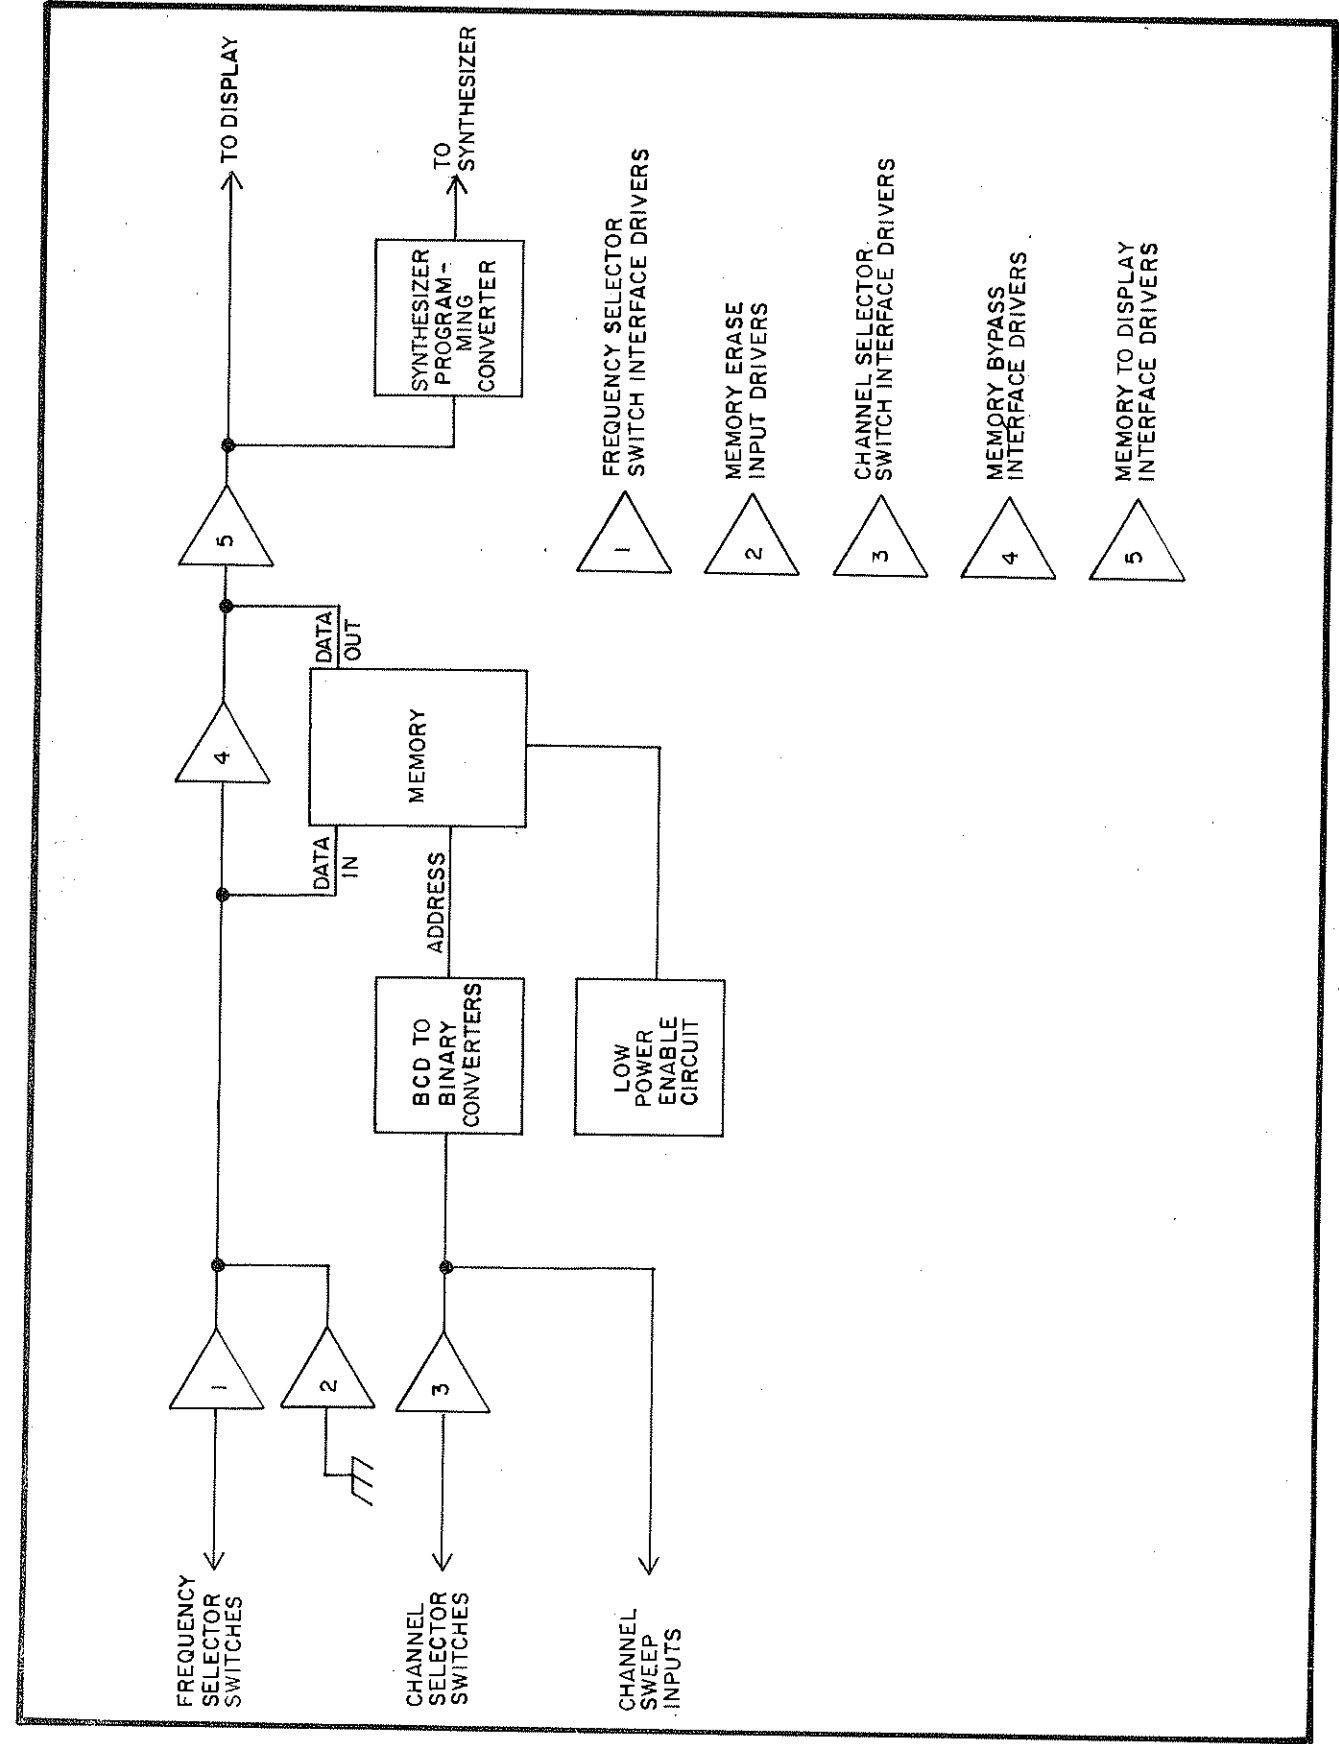

Figure 4.4 GSB-900SC Memory Board Block Diagram (1A1A7)
Figure 4.4 shows a simplified block diagram of the memory system. Portions of the system are enabled or disabled at certain times depending on the mode selected by the Frequency Control Mode Keyswitch.
The Frequency Selector Switch Interface Drivers are designated as Drivers #1 in Fig. 4.4 which is a block diagram of the Memory Board 1A1A7. The Frequency Selector Switch Interface Drivers are comprised of Hex Bus Drivers U23, U24, U25 and U26A. These Drivers pass the BCD Frequency Selector Switch information into the Memory Board except when their outputs are forced into a high impedance state by the presence of a high on the Clear Mode input pin 15 of U23, U24, U25 and U26A. Consequently the BCD Frequency Selector Switch information is always passed into the Memory Board for processing except when the Clear Mode signal indicates that the Master Clear button has been pushed and that zeros are being loaded into all the memory locations. In that case the BCD Frequency Switch information is blocked from entering the Memory Board because the Band Steering Board, 1A1A6, is producing a high on Memory Board input 1A1A7P1-63 called Clear Mode which disables Drivers #1 and prevents any influence by the Frequency Switch information.
The Memory Erase Input Drivers are designated as Drivers #2 in Fig. 4.4, the Memory Board block diagram. The Memory Erase Input Drivers are comprised of Hex Bus Drivers U11, U12, U13 and U14. These Drivers produce high impedance outputs continuously
The Channel Selector Switch Interface Drivers are designated as Drivers #3 in Fig. 4.4. The Channel Selector Switch Interface Drivers includes Hex Bus Drivers U22 and U26B. These drivers pass the Channel Selector Switch information into the Memory Board at the same time the Frequency Selector Switch Interface Drivers pass the Frequency Switch information into the Memory Board. This is because Drivers #3, comprised of U22 and U26B, are enabled by a low on the Clear Mode input pin 15 of U22 and U26A. However, just as with Drivers #1, when the Clear Mode input on 1A1A7P1-63 of the Memory Board is high, the outputs of Drivers #3 become high impedance preventing the Channel Selector Switches from influencing the Memory Addressing Inputs. This action permits the Channel Sweep Inputs seen in Fig. 4.4 to control the Memory Addressing Inputs so that each memory address may be selected in sequence to facilitate the loading of zeros in all memory locations during the Clear Mode.
The Memory Bypass Interface Drivers are designated as Drivers #4 in Fig. 4.4. The Memory Bypass Interface Drivers are comprised of Hex Bus Drivers U15, U16, U17 and U18. If inputs 1 and 15 of U15, U16, U17 and U18 are low, the Memory Bypass Interface Drivers will permit the BCD information simultaneously present both on their inputs and on the Memory Data Inputs to bypass the Memory RAMS, U3 through U8. The outputs of Drivers #4 will appear as outputs on the Memory Data Output lines even though they do not originate within the memories. Inputs 1 and 15 of U15 through U18 are called Read Freq and Secure, respectively. They originate on the Band Steering Board, 1A1A6, and enter the Memory Board at 1A1A7P2-75 and 1A1A7P2-77, respectively. Both signals will be low permitting the Memory RAMS to be bypassed if neither the Read Freq mode nor the Secure mode are selected via the front panel Frequency Mode Keylock switch, S9. If the radio is operating in either the Read Freq or the secure mode, Drivers #4 will be disabled and the contents of the Memory RAMS, U3-U8, will instead be present on the Memory Data Output lines. If the radio is operating in either the Read Freq or the Secure mode, then either inputs 1 or 15 of Drivers U15 through U18 will be high thus causing their outputs to become high impedance. Since the RAM Memory Data Outputs are enabled only during the Read Freq or the Secure Mode and are high impedance during the Normal or the Load Freq mode, the Memory Data Output lines will contain the BCD Frequency switch input data during the Normal and the Load Freq mode and the BCD Memory contents during the Read Freq or the Secure mode.
The Memory to Display Interface Drivers are designated as Drivers #5 in Fig. 4.4. The Memory to Display Interface Drivers are comprised of Hex Buffer/Drivers U27,
U28, U29 and U30. These drivers are always enabled. They provide output drive capability for whatever BCD data is found on the Memory Data Output lines. They send the BCD data on the Memory Data Output lines, whether it represents the Frequency Switch inputs or the contents of Memory, to the Display Driver Board, 1A1A2. The Memory to Display Interface Drivers send the 10 MHz, 1 MHz, 100 kHz and 10 kHz Memory Board output data to the Band Steering Board, 1A1A6, where it drives the two Synthesizer Steering Networks as well as the Band Converter Circuits. On the Memory Board itself, the 10 MHz, 1 MHz and 100 kHz BCD outputs of the Memory to Display Interface Drivers provide control inputs to the Synthesizer Programming Converter seen in Fig. 4.4. The Synthesizer Programming Converter changes the 10 MHz, 1 MHz and 100 kHz BCD output data of the Memory to Display Interface Drivers to Inverted Decimal, Nines Complement and Tens Complement data for the 10 MHz, 1 MHz and 100 kHz Synthesizer inputs, respectively.
The Synthesizer Programming Converter in Fig.4.4 changes the 10 MHz, 1 MHz and 100 kHz BCD output data of the Memory to Display Interface Drivers to Inverted Decimal, Nines complement and Tens Complement data for the 10 MHz, 1 MHz and 100 kHz
4.3.5.2 Referring again to Fig. 4.4, the Memory Board Block Diagram, note that portions of the system are enabled or disabled at certain times depending on the mode
selected by the Frequency Control Mode Key switch. The numbered drivers in Fig. 4.4. will define the paths of signals in the following mode descriptions.